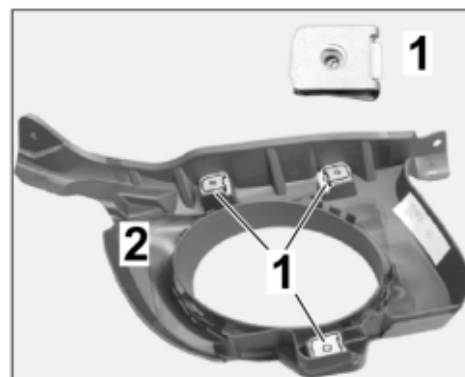

Figure 6
3.3.1 Fit new speed nut, St 4.8 x 22 x 18 (3 pc(s)) on exhaust pipe cover (left ⇒ *Figure 6/right*).